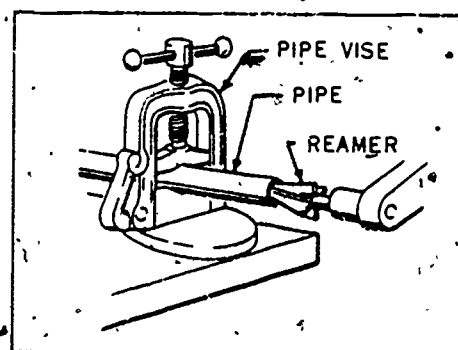
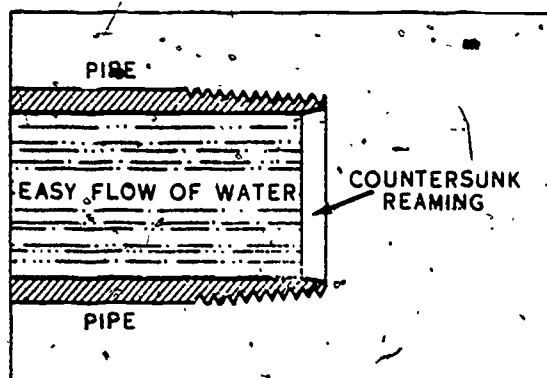

Figure 4-24. Reaming a pipe.
Figure 4-25. Pipe properly reamed.
**Reaming pipe manually.** The burr is removed from the end of the pipe with a pipe reamer. To perform this operation, insert the point of the pipe reamer into the pipe while it is still clamped in the vise, as shown in figure 4-24, and rotate the handle of the reamer in a clockwise direction in short, even strokes until the burr on the inside of the pipe is removed. A cutaway of a piece of pipe that is reamed properly is illustrated in figure 4-25. It is general practice for a plumber to